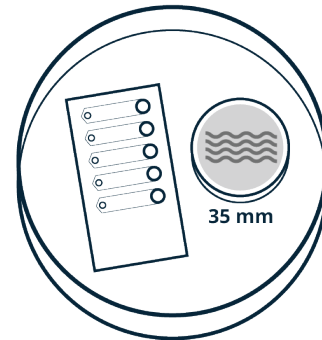

Figure 3. Prepare water. Place device in covered container.
6. Invert a 100mm Petri dish such that the lid becomes the base. Fill a 35mm Petri dish half-full with water. Place both the uncovered 35mm Petri dish and the device in the inverted Petri dish lid. Cover with the former 100mm Petri dish base (Figure 3).